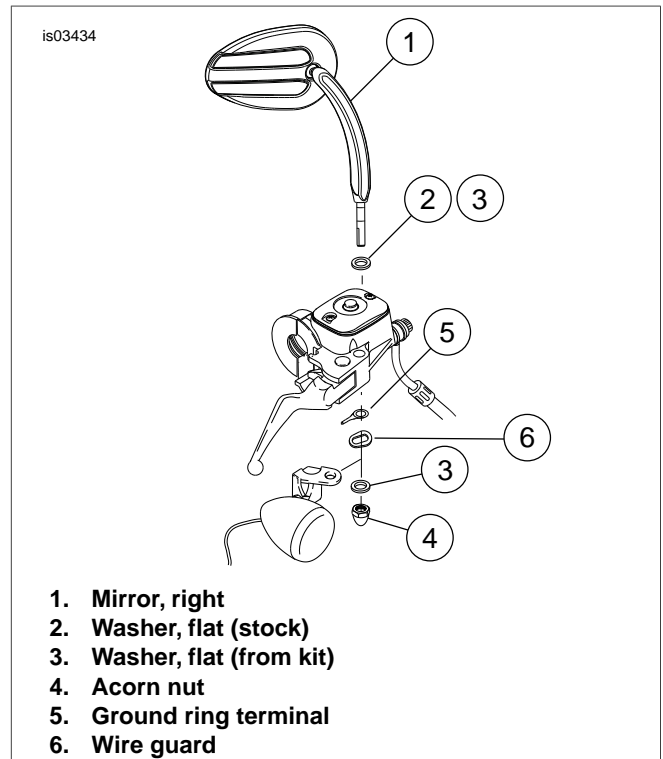

Figure 6. Install R.H. Lighted Mirror (Except Sportster, Dyna, FXSTD, FLSTF, FXSTS, FLSTS, VRSC)
6. Install acorn nut (4) on mirror stem (1). Tighten to 8-12 ft-lbs (10.8-16.3 Nm). Be careful not to over tighten.
7. *Right side:* See Figure 6. Repeat steps to install right side lighted mirror (front brake hand control assembly).